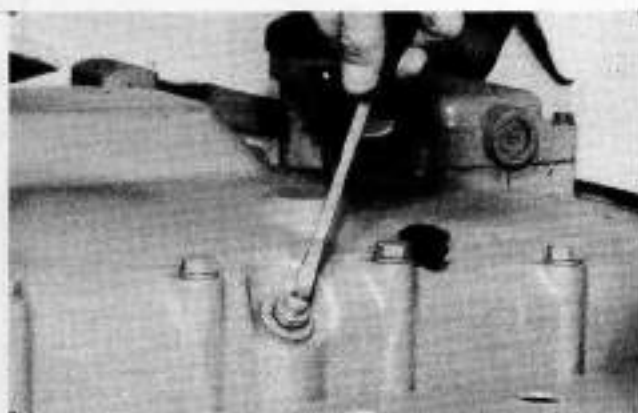

Fig. 170—View showing location of adjustment hole plug and screw for rear planetary brake bands.
**303. REAR PLANETARY BRAKE BAND ADJUSTMENT.** Remove jam nut, adjusting screw and plug from transmission cover. See Fig. 170. Start engine, place range selector in neutral and power shift in fourth gear. Increase engine speed until pressure gage reads 517 kPa (75 psi), note engine rpm. Maintain this rpm and go through plug opening and tighten adjusting nut until engine speed drops 25 rpm. Depress foot clutch and **LOOSEN** adjusting nut four turns. Apply sealer to plug and install. Install adjusting screw into plug and tighten screw until it contacts end of brake bands, then loosen 1/2-turn. Lock screw in this position with jam nut.